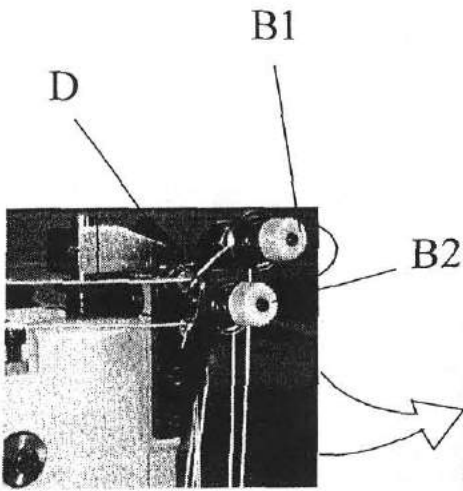

Fig.2
- From the right through the thread guide **D** of the down hole, as show in Fig.2 ◦
- Clockwise around and between tension disk of the control button **B2**, as show in Fig.2 ◦